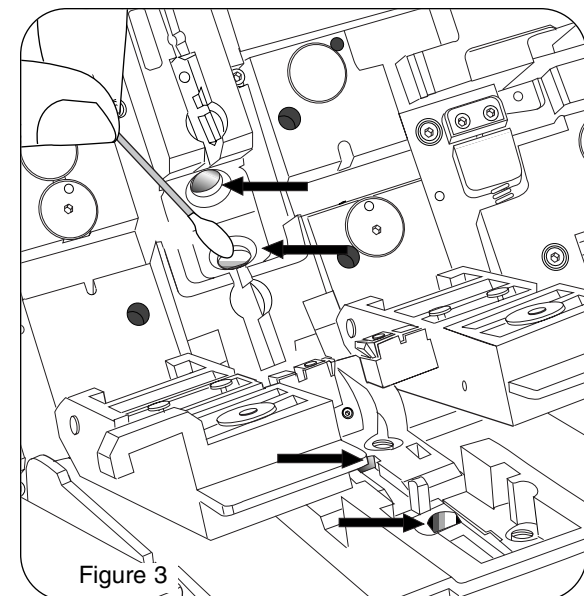

Figure 3
3. Clean the optical lenses and mirrors indicated by the arrows in Figure 3 with a cotton swab slightly dampened with window cleaner.